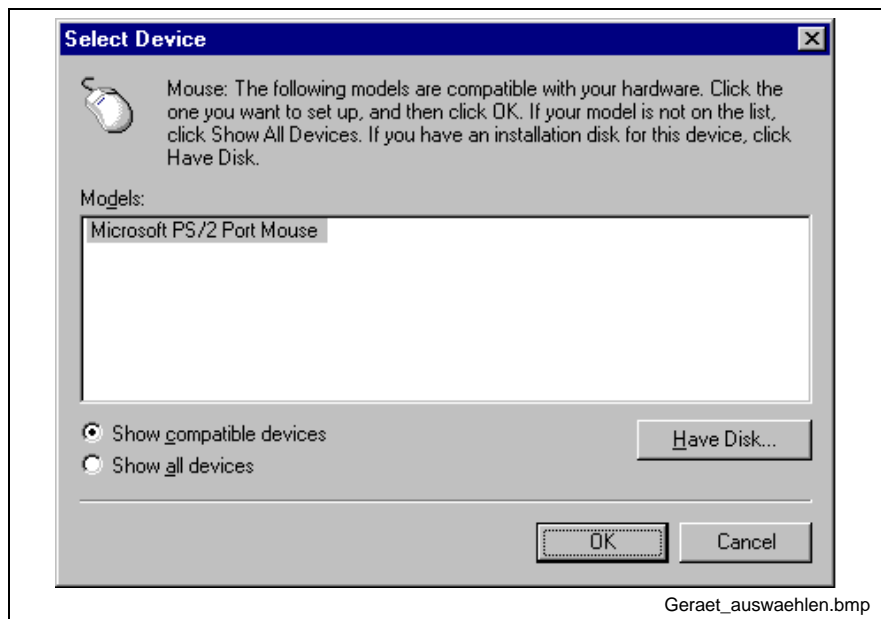

Abb. 5-4: Selection window of the Microsoft PS/2 mouse
- Fig. 5-4: Selection window of the Microsoft PS/2 mouse 5-3